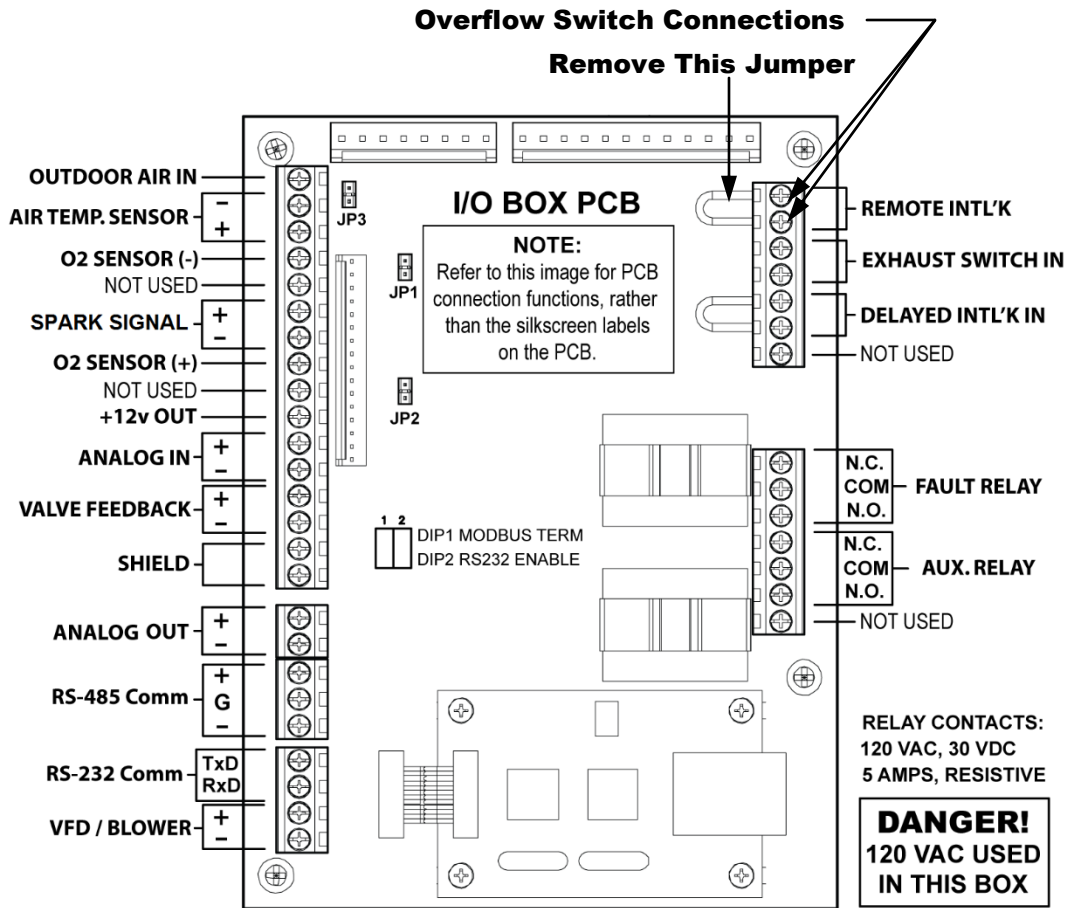
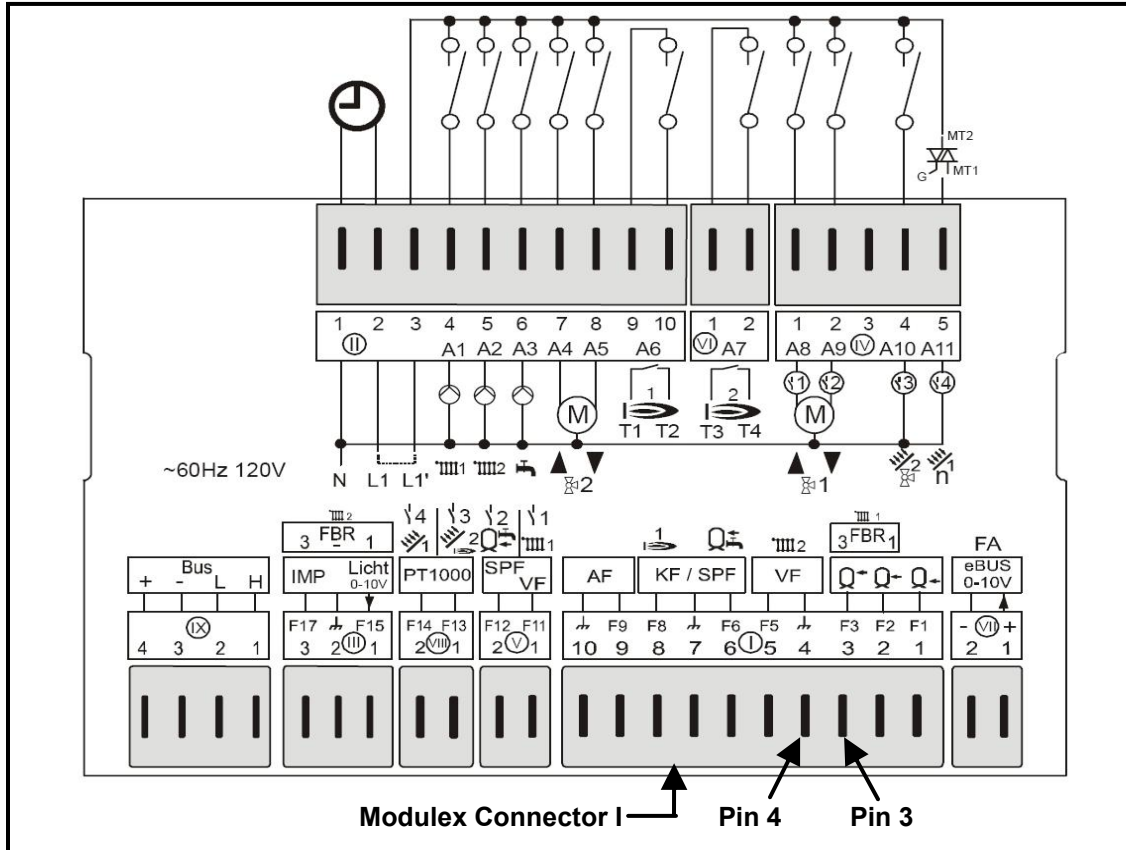
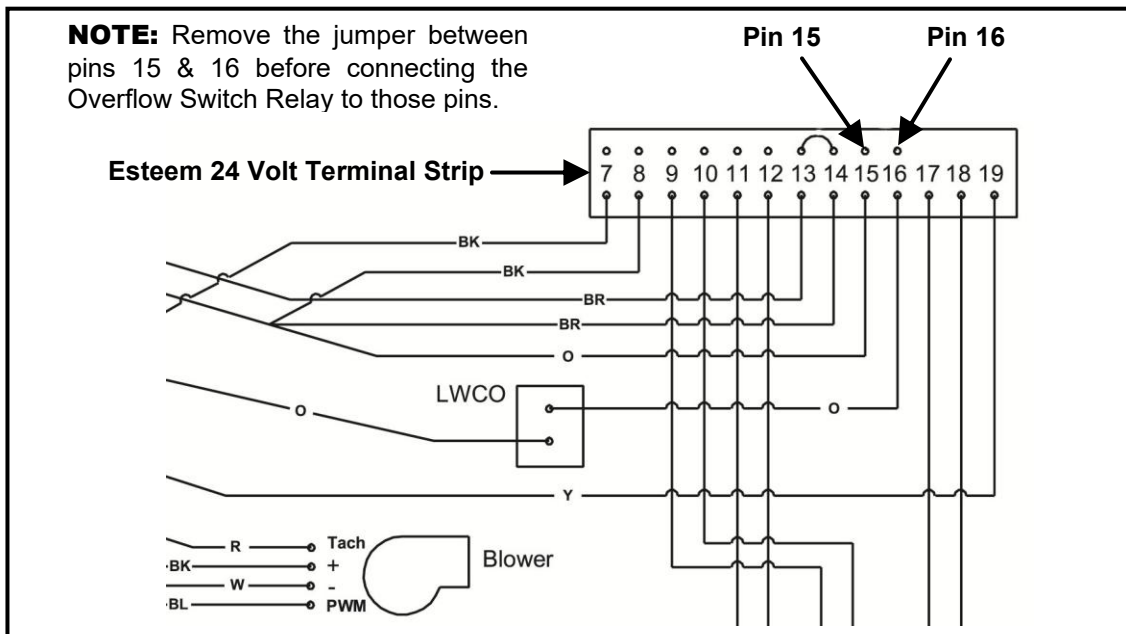

Figure 5: C-More Controller I/O Overflow Switch Relay Connection Points (for KC1000, Benchmark, Innovation, and RECON Units)
Figure 6: Modulex E8 Controller Overflow Switch Relay Connection Points
Figure 7: Esteem Overflow Switch Relay Connection Points
- 2) A condensate pump is used to lift the condensate from the appliance to the neutralization kit (Figure 6). The maximum condensate lift shall not exceed 5ft.
NOTE: If there is a pit on the floor below the appliance that can accommodate the AERCO condensate neutralizer kits, they can be arranged in the pit in a similar cascading method as Figure 6 without the pump).
The condensate pump must be equipped with an over flow switch to prevent the appliance from running should a failure occur. The over flow switch must be wired to the Remote Interlock of the AERCO boiler/water heater I/O Box for KC1000, Innovation, and Benchmark units (see Figure 5); Pins 3 and 4 of Connector I on Modulex E8 controller (see Figure 6); pins 15 and 16 of the 24V terminal strip on Esteem boilers (see Figure 7).